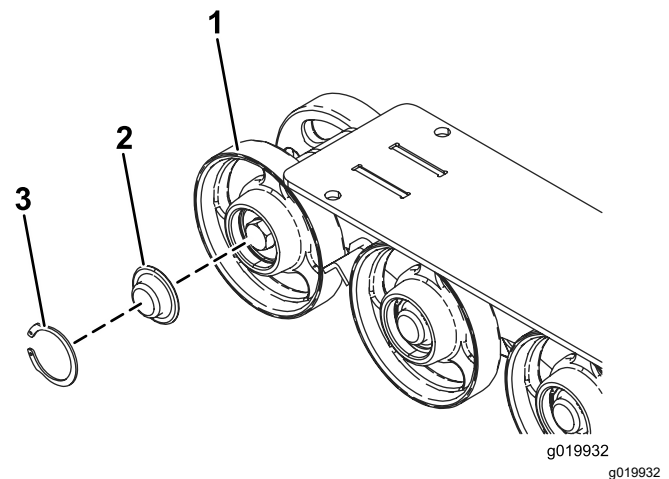

Figure 50
5. Remove the snap ring and cap from a road wheel (Figure 50).
6. Check the grease under the cap and around the gasket (Figure 50). If it is dirty, gritty, or depleted, clean out all the grease, replace the gasket, and add new grease.
8. Place the greased road wheel cap over the bolt head (Figure 50).
9. Secure the road wheel cap with the snap ring (Figure 50).